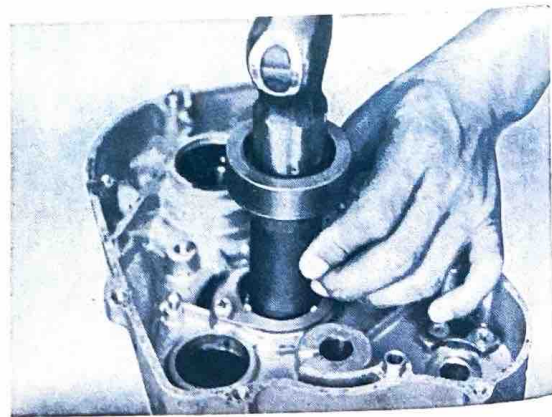

Fig. 3-18-3
- 2) Remove the bearing with a bearing puller. (Fig. 3-18-3)